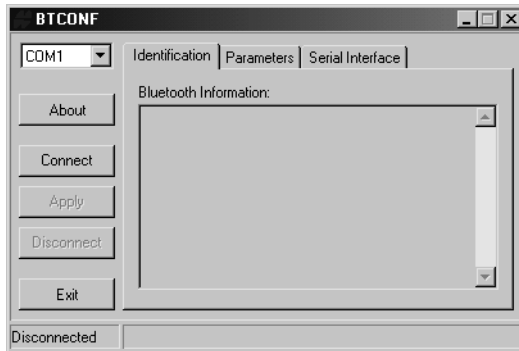

Figure 2-23. Bluetooth Module Configuration Main Screen
2. Run the Bluetooth module configuration program (Btconf.exe) (Figure 2-23).